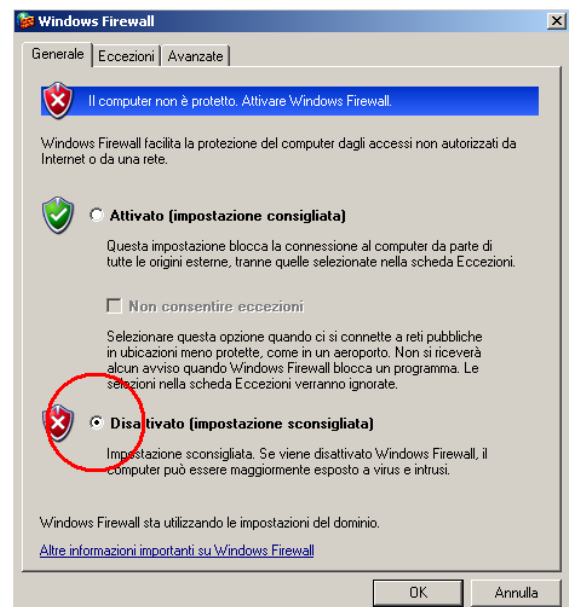

Figure 4.d – Disabling Windows Firewall
5. Create a new "Local Browser" (Figure 4.e);
a new window will be opened showing the contents of the PC (Figure 4.f below).